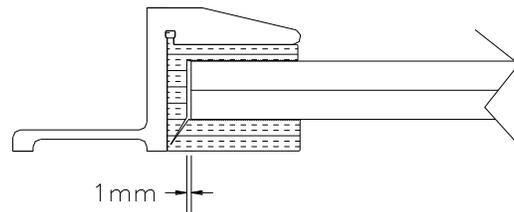

Figure 3. Example of a module with a 1mm gap from the vertical edge of the clip
- The clip and support rail retaining system shall be designed in combination with one another and must have a gap on the vertical edge to the module of 1mm [0.04 inches] to allow for thermal expansion in the width and length of the module glass. See Figure 3 below.